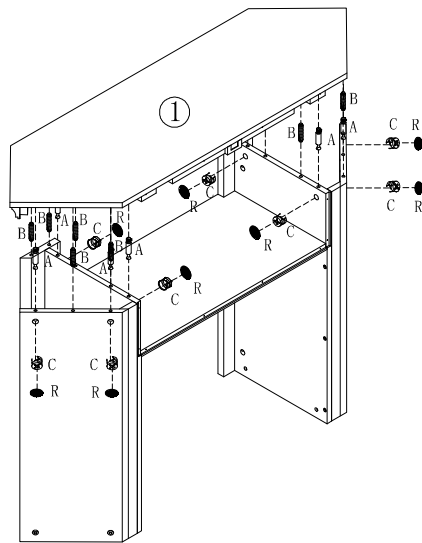

**Figure 3**
AFTER ASSEMBLED FIGURE 3, INSERT ( A ) CAM BOLT & ( B ) WOOD DOWEL TO THE RELATED HOLES, THEN USE ( C ) CAM LOCK TO (1) CONNECT TOP PANEL . FINALLY **PLACE** (R) COVER IN CAM LOCK.